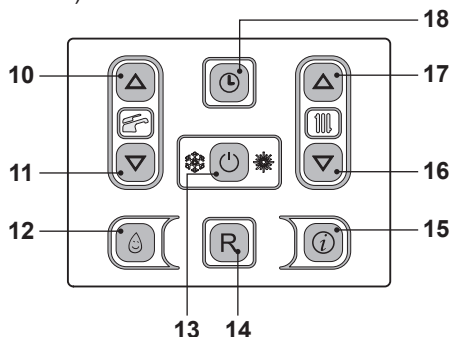
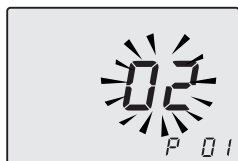

Fig. 10.20
Fig. 10.21
- Enter in "programming mode" by sequentially pressing and holding in keys, 13 - 16 and then 17 (Fig. 10.20) for 10 seconds until the letters **P01** are displayed on the LCD display, indicating that "parameter 01" (Fig. 10.21) has been activated.
- Press keys 16 and 17 (Fig. 10.20) at the same time until the LCD display displays the letters **LP** that alternate with the heating water temperature value (e.g. **45**), indicating the activation of the "flue sweep function" at minimum output (Fig. 10.22).
- By pressing 17 (Fig. 10.20) it is possible to change power in flue sweep mode: with the letters **hP** on the LCD display which alternate between the heated water temperature (i.e. **32**), we are in the "flue sweep function" at the minimum power during heating (Fig. 10.23).
- Press keys 13 - 16 - 17 (Fig. 10.20) at the same time again to exit the "flue sweep mode" and return to the previously set boiler status (Fig. 10.26).